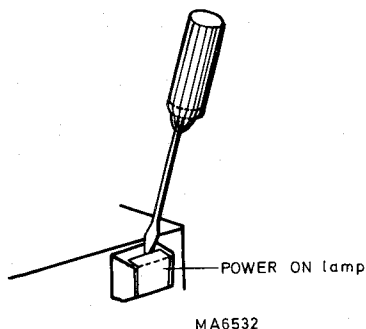

Fig. VIII-3. Removing the transparent cap of the POWER ON switch
- Remove the transparent cap from the button by inserting a screwdriver as shown in Fig. VIII-3 and gently twisting it.